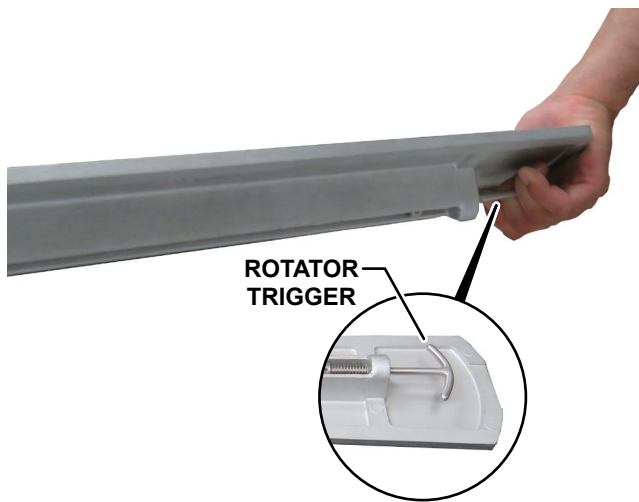

Figure 3. Rotator Trigger
1. With the armboard installed on a table, pull the rotator trigger (Figure 3). Keep outward tension on the trigger.